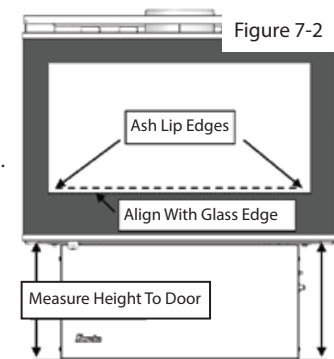

Figure 7-2
- Check the alignment of the door by measuring vertically from the underside of the door at each outer edge, to the base of the unit, as per figure 7-2. This measurement should be taken with the hinge bolts tightened and with the door hanging under its own weight.